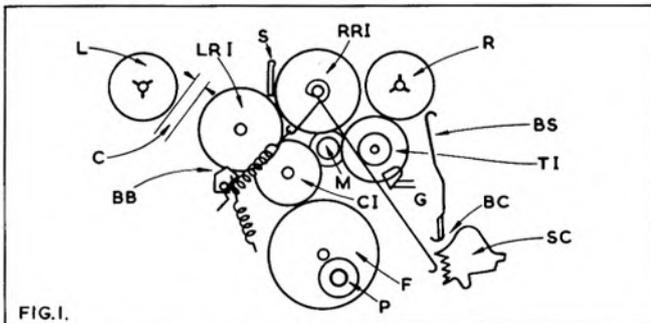

FIG. 1.
**Model 101.** This is a machine with a four-transistor pre-amplifier circuit driving a 6AR5 valve output, doubling as HF oscillator for recording purposes, with a 5MK9 valve rectifier. The spool and flywheel drive is via four separate idlers, with a single function selector lever and spring return action throughout. Fig. 1 gives some indication of the mechanical system and notes the clearances to be obtained from the following adjustments.
A subsidiary brake is applied to the left-hand idler, as shown at BB. There is a tension spring with this brake block, allowing adjustment. Note the clearance C (shown exaggerated in fig. 1).
The pinch pressure can now be adjusted. First check that the arm is correctly operated, so that the roller at its right-hand end comes within a half-millimetre of the Fast Forward cam, which is concentric with the cam SC of fig. 1. The machine is switched to Fast Forward for this test and adjustment is by moving the whole head mounting plate (three screw fixing). It may be necessary to adjust the tape shifter, i.e., the arm on the lever which comes between the two heads. Finally, see that the pinch lever allows the Fast Forward lever to return to its normal position. If necessary, apply a little judicious pressure with the long-nosed pliers. Note that the capstan and pinch rollers with red markings are used on 50 c/s, and the 60 c/s components have a white upper circle. In addition, the voltage selector and motor connection panel have to be altered.